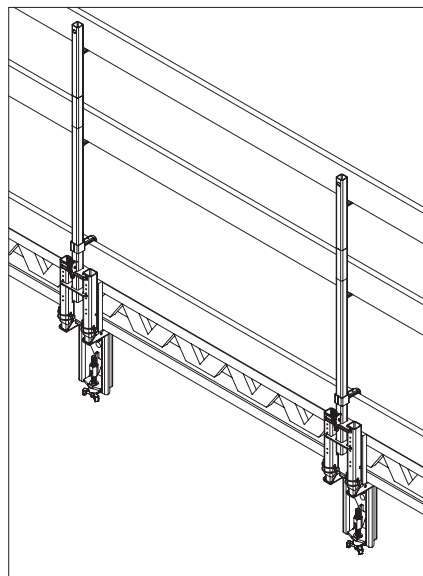

Fig. A2.15
- Anti-fall protection with boards. (Fig. A2.15)